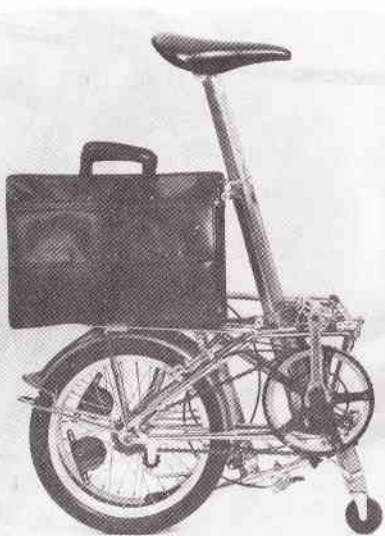

Fig. 3
- 1) DAHON Folder can be pushed along beside you in a folded state by using the caster wheel and by extending the seat post to a convenient height (Fig. 3). As the caster wheel is not designed for rough terrain, the bike should either be lifted, or tilted backwards, to run on the 2 large wheels when crossing rough areas